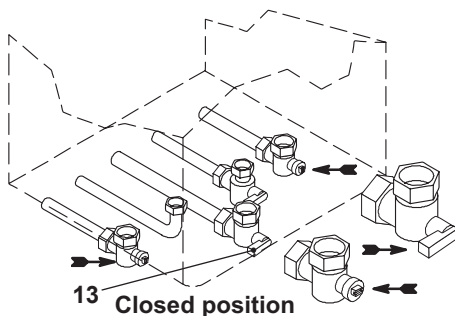

Fig. 2.12
- Shut off the gas supply cock 14 and the valves for the water circuits fitted under the boiler (Fig. 2.12).